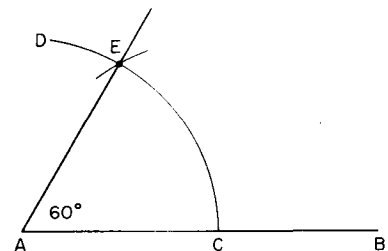

Fig. 3.4
- (1) Construct a 60° angle, see Fig. 3.4.